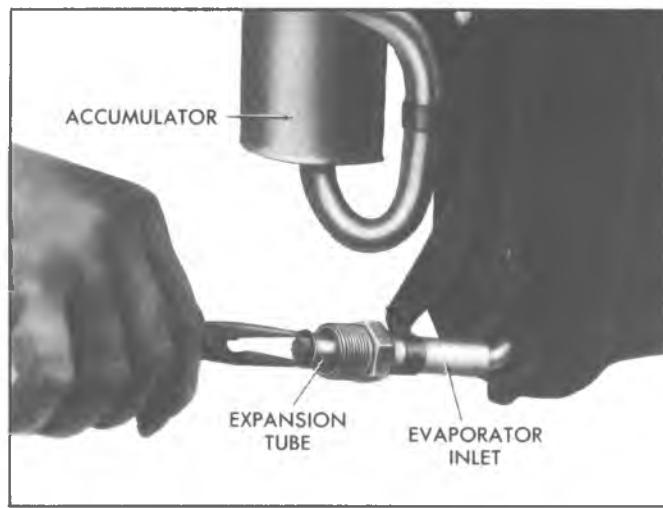

Fig. 61--Expansion Tube (C-K Four-Season System)
Replacement (Fig. 61)
3. Using needle-nose pliers, remove the expansion tube from the evaporator core inlet line (fig. 61).